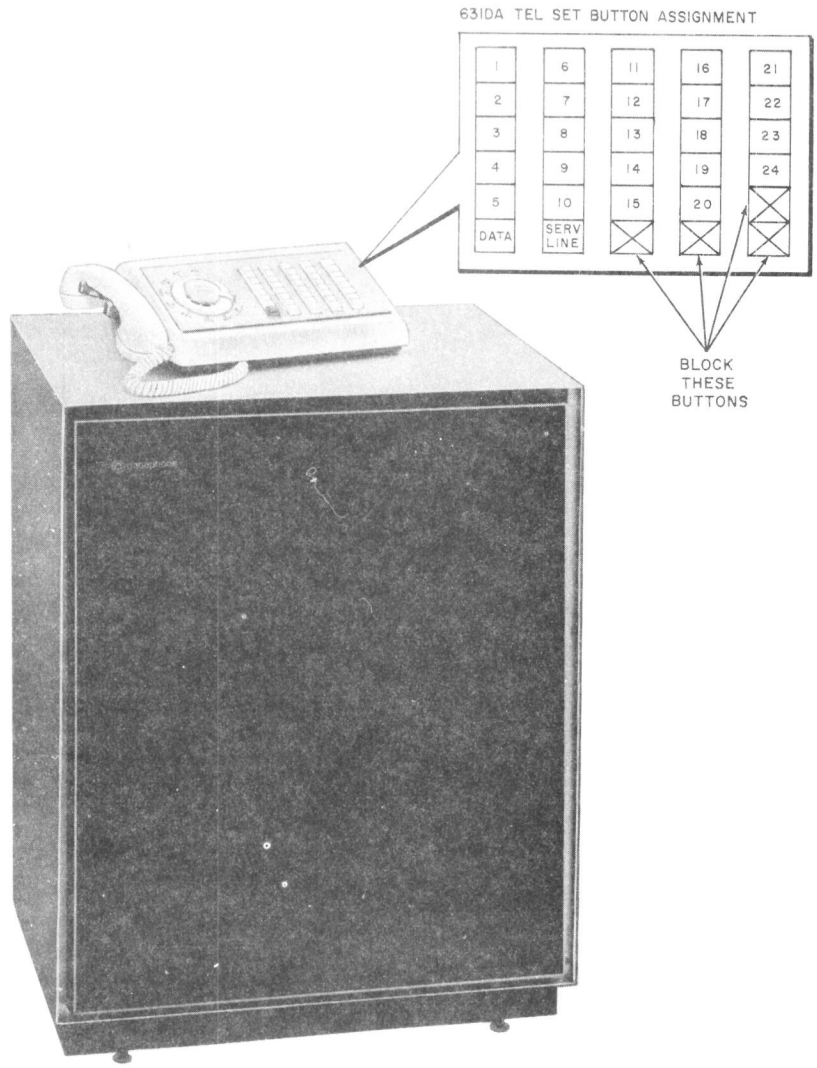

Fig. 1—202S Data Station
**1.01** This section covers the installation and connection procedures to be followed when installing a data station utilizing data set 202S. This station will be referred to in this section as a 202S data station (Fig. 1).